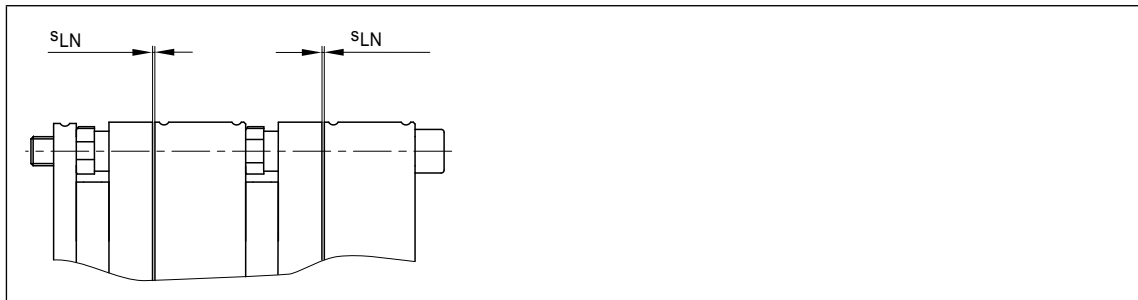

Fig. 11 Check the air gap
12. Check the air gap using a feeler gauge and correct it if necessary ($s_{LN} = 0.4 + 0.05 \text{ mm}$) according to Figures 11 and 12.